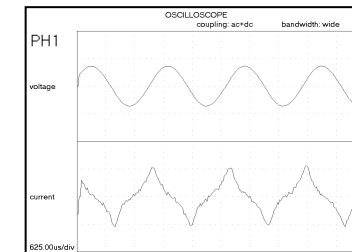
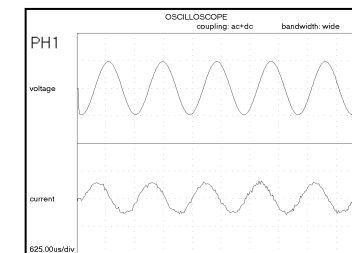

Fig 1 (Distorted current waveform)
Fig 2 (Correct current waveform)
**Note:** The amplifier contains an output rms current protection circuit, and when driving some capacitive loads this circuit may be activated. Due to capacitor construction, at high current the amount of energy transfer distorts the current waveform resulting in excessive peak current (Fig 1 below), whilst the rms value remains within specification. To ensure correct functionality and prevent false triggering of the protection circuit, ideally the current waveform should be a sinewave as pictured in (Fig.2 below).